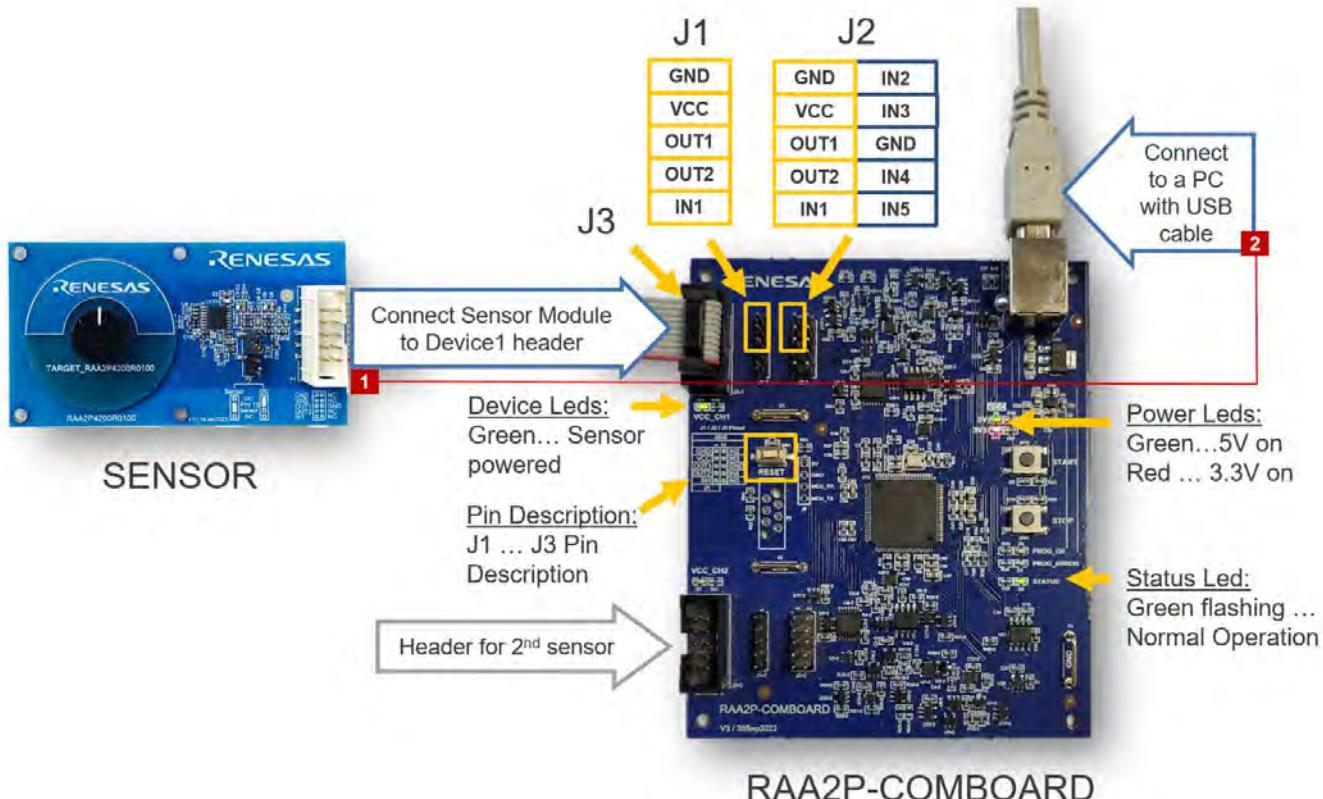

Figure 5. Evaluation Kit Connection Setup
1. Connect the sensor module P1 connector to the J3 header of the RAA2P-COMBOARD using the provided cable according to Figure 5